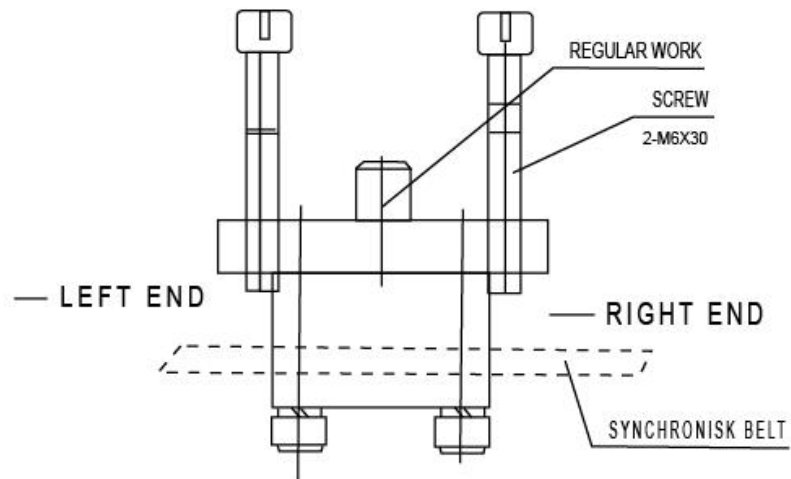

Fig. 2c
- 3.3.3 Fix the wire rope on the Fixed stand which located under the table (Fig. 2c)